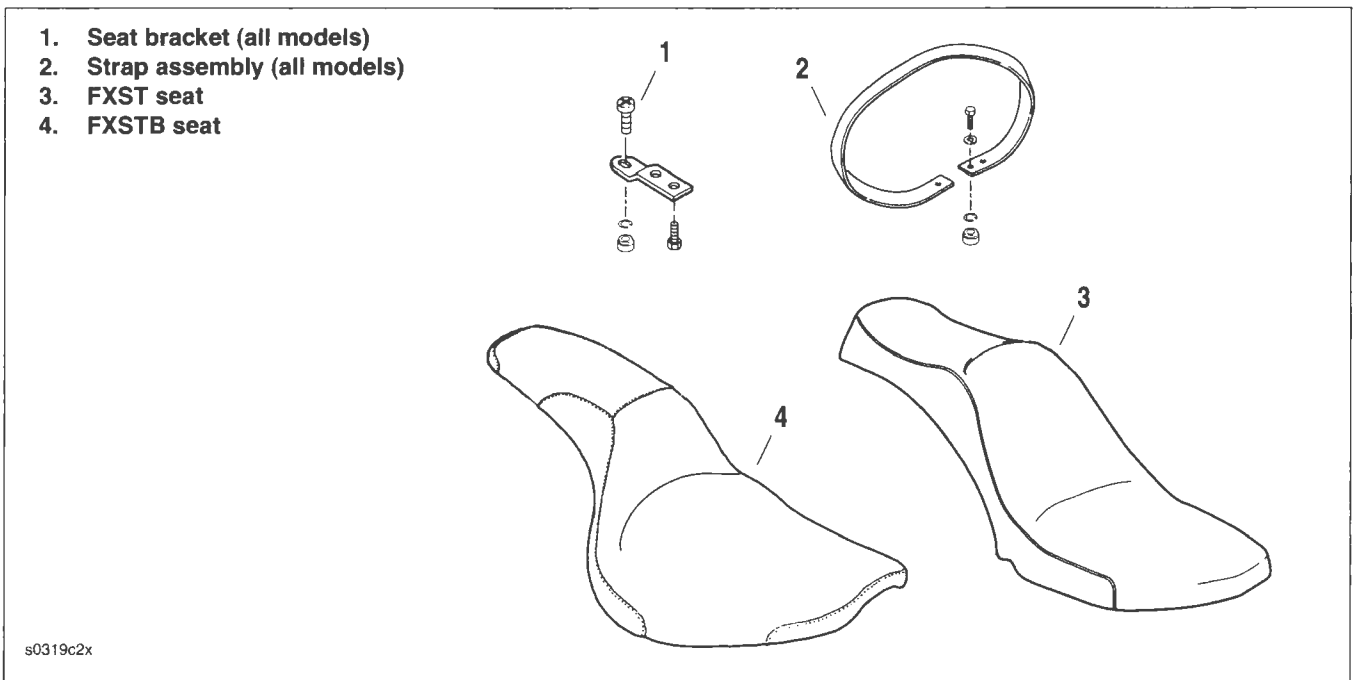

Figure 2-157. Seat: FXST and FXSTB
See Figure 2-157. Seat attaches with a single thumbscrew on the seat bracket (1). When installing seat, insert tang at front of seat into the channel in the frame and install rear thumbscrew.